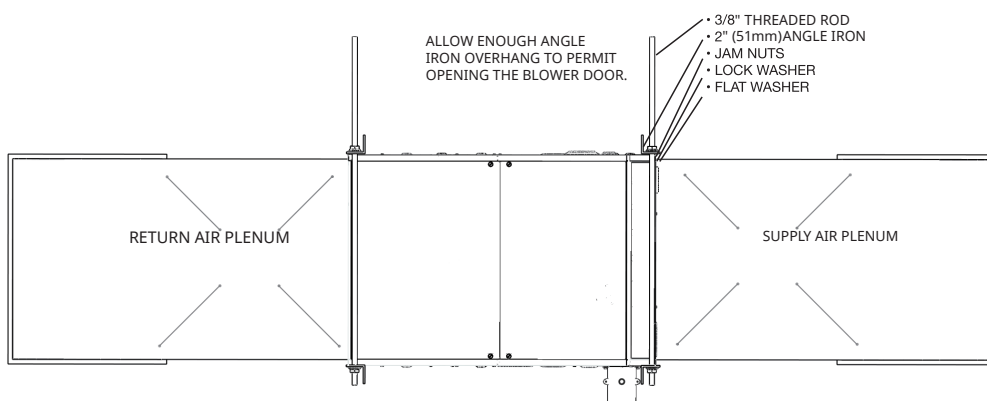

Figure 3. Suggested Method For Suspending Horizontal Furnace
- When installed in the horizontal position, the furnace may be supported from the bottom, or suspended. (Figure 3)
Maintain clearances to combustibles as outlined in Table B. The furnace may be suspended by field fabricating a cradle of angle iron and threaded rod. Secure the furnace with 2" (51 mm) minimum slotted angle or equivalent as shown in Figure 3. The furnace must be supported in such a way as to not allow twisting or sagging of the cabinet. Position the supports so as to not interfere with accessing the burner and blower compartments.